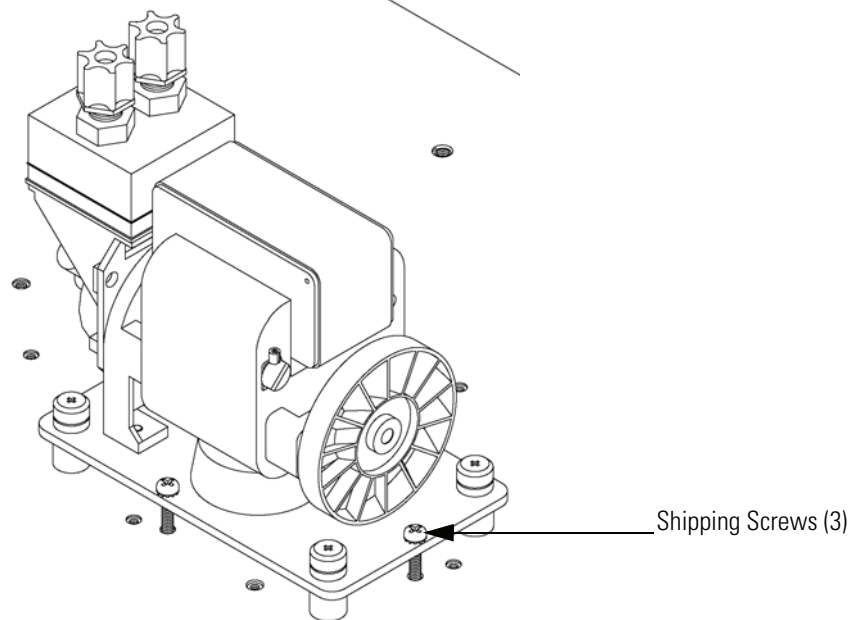

Figure 2-2. Remove the Shipping Screws
4. If the photometer option is installed (includes pump), remove the three shipping screws (Figure 2-2).